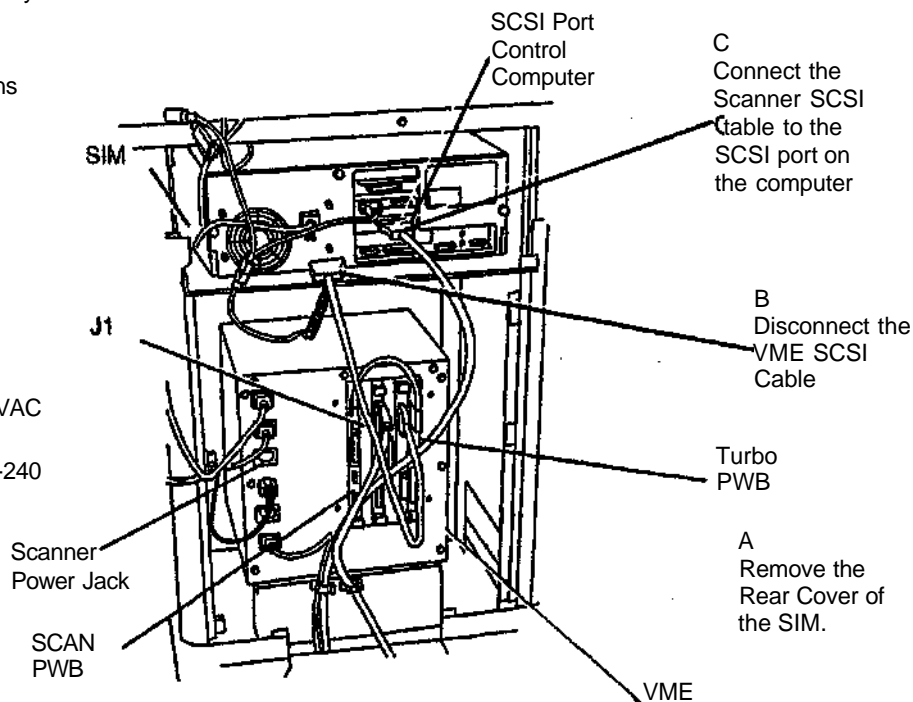

Figure 6-25. Connecting the Scanner to the SIM
- to an external main power outlet, if the main power is 220-240 VAC (EO).
3. (Figure 6-25): Reconnect the Scanner directly to the control computer.